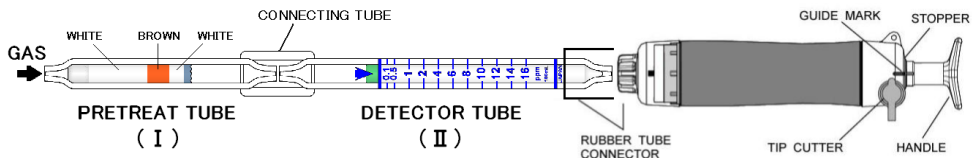

Fig.1
- ① Break both ends of the detector tube (II) and pretreat tube (I), and connect each end of the detector tube
(II) and pretreat tube (I) with connecting tube as shown in Fig.1.
- ② Insert the detector tube into the aspirating pump securely as shown in Fig.1. (Arrow mark shall point to the pump.)
- ③ Align the guide marks on the shaft and stopper of the aspirating pump.
- ④ Pull the pump handle at a full stroke until it locks and wait for 1.5 minutes or until the completion of sampling is confirmed with the flow indicator of the pump (See descriptions about the flow indicator in the instruction manual of the pump).
- ⑤ On completion of sampling, read the scale at the maximum point of the stained layer.
- ⑥ When concentrations are below the scale range, 2 pump strokes can be used to determine these lower concentrations. In case of 2 pump strokes, push back the handle without removing the detector tube from the rubber tube connector so that air in the pump will be discharged perfectly. Then repeat the step③~⑤ once more.
- ⑦ In case of 2 pump strokes, actual concentration is half of the reading value.